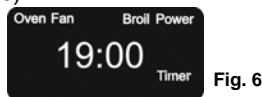

Fig. 6
3. Press timer/temp button for the timer. Press the increase/decrease button. Each time the button is pressed the time will change in one (1) minute increments. Set at 15 minutes for preheating. If you hold down the increase or decrease button, the increments will change rapidly. Press the start button. (Fig. 6)